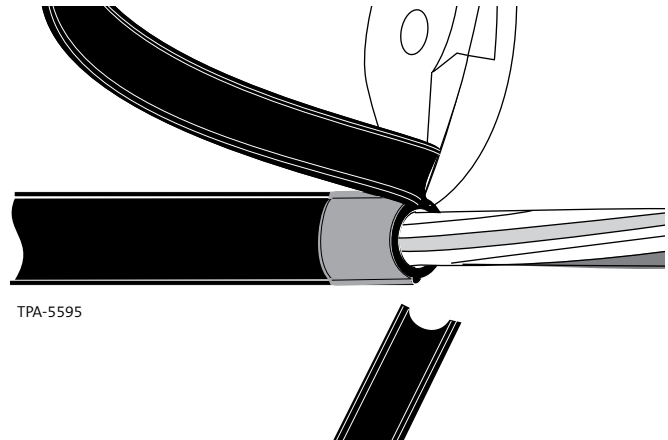

Figure 17
Step 5: Using care to avoid damaging the cable core, use side cutters or scissors to trim off the split sheath sections at the tape wrap (Figure 17).